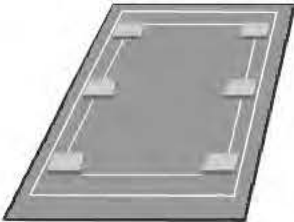

Figure 2
Step 2. Set building on six points; position the 4"x8"x16" solid cement blocks proportionately to bear the weight. These blocks should form a rough 3'x9' rectangle for the building to sit on. Position the cement blocks perpendicular to the skids to better bear the weight. Figure 2. Consult the pier configuration in the following pages.